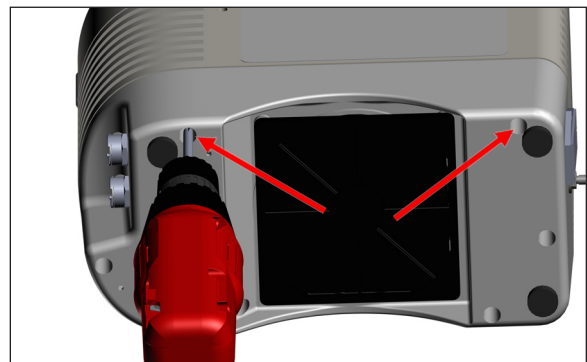

Figure 19 - Step 4 Remove two base screws
4. Remove the two screws in the base that hold the base and rear enclosures together. Do not discard the screws (Figure 19).